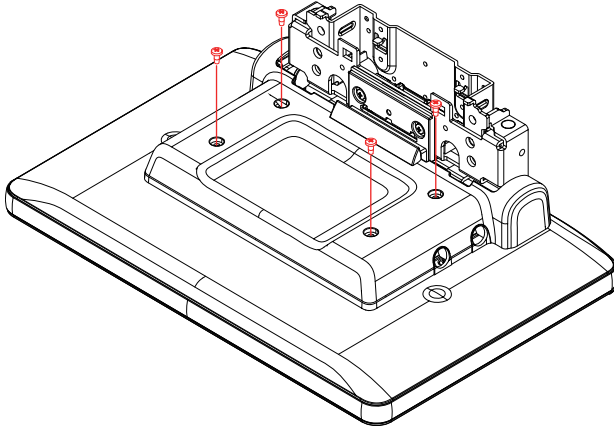

Fig.1
3.1.1 Removing the HINGE ASS'Y (See Fig.1 to 5)